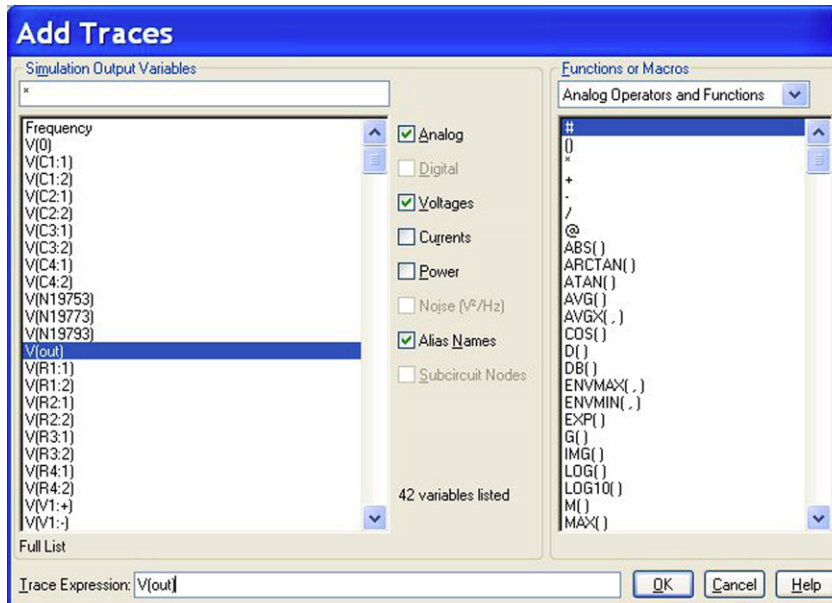

FIGURE 4.11
7. Select **Trace > Add Trace**  and the **Add Traces** window will appear as shown in Figure 4.11.